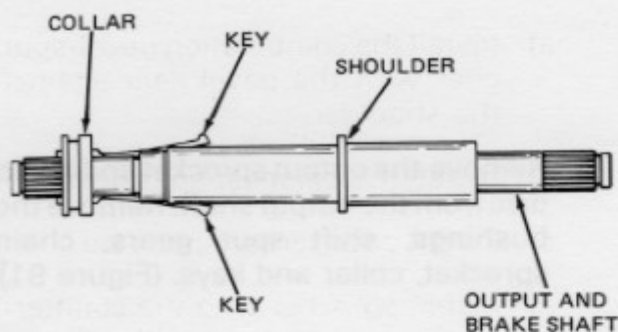

Figure 93
2. Install keys and collar (Figure 93) on output shaft. The thick side of collar **MUST** face shoulder on shaft.